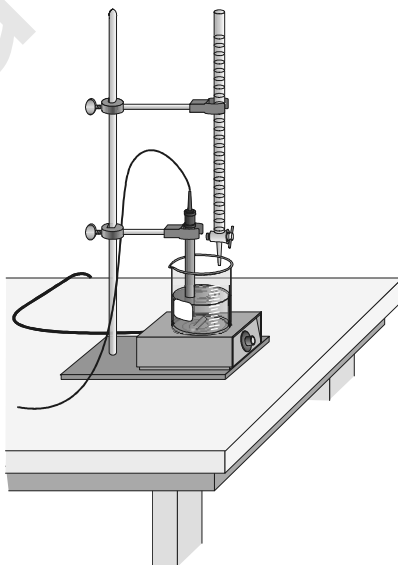

Figure 1
5. Set up a ring stand, buret clamp, and 50.0 mL buret to conduct the titration (see Figure 1). Rinse and fill the buret with 0.100 M NaOH solution. **Note:** Record the precise concentration of the NaOH solution in your data table. **CAUTION:** *Sodium hydroxide solution is caustic. Avoid spilling it on your skin or clothing.*
6. Use a utility clamp to suspend the pH Sensor on the ring stand, as shown in Figure 1. Position the pH Sensor so that its tip is immersed in the HCl solution but is not struck by the stirring bar. Gently stir the beaker of acid solution.